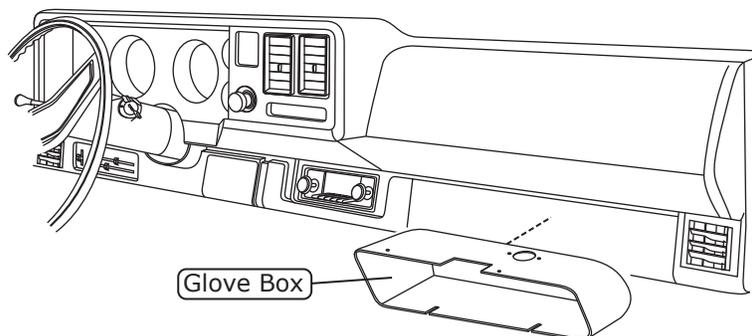

Figure 1
1. Install the supplied glove box, and secure it using OEM screws through the OEM holes (See Figure 1, below).